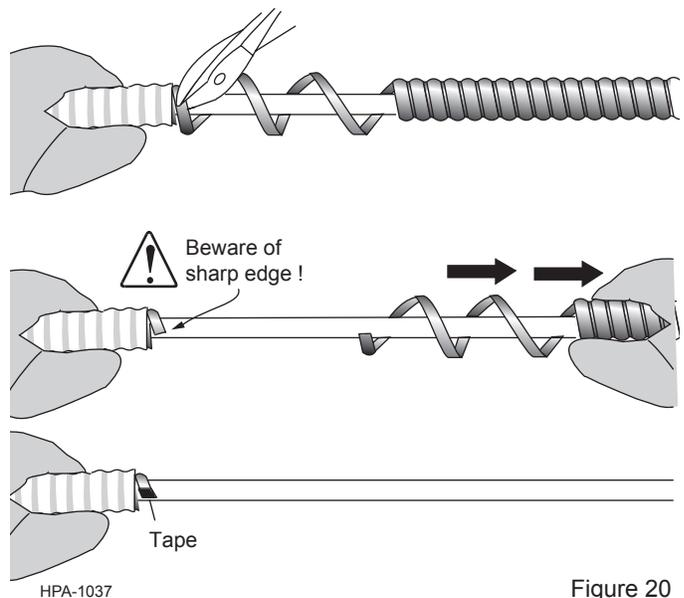

Figure 20
**5.10** Using the side cutters, cut the armor across the narrow separated band. Remove the armor and outer sheath from the free end of the cable by sliding it off (Figure 20).